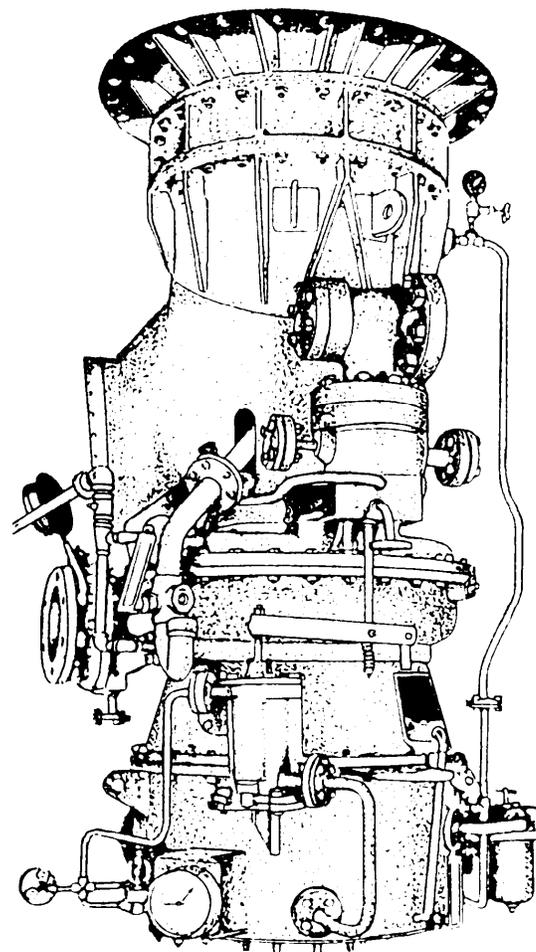

Figure 5-25.—View of a two-stage vertical propeller-type blower from the steam chest side.
**VERTICAL-TYPE PROPELLER BLOWER.**—High-powered, two-stage or three-stage vertical-type propeller blowers are installed in most combatant ships. One model of a two-stage vertical propeller blower is shown in figure 5-25. This model